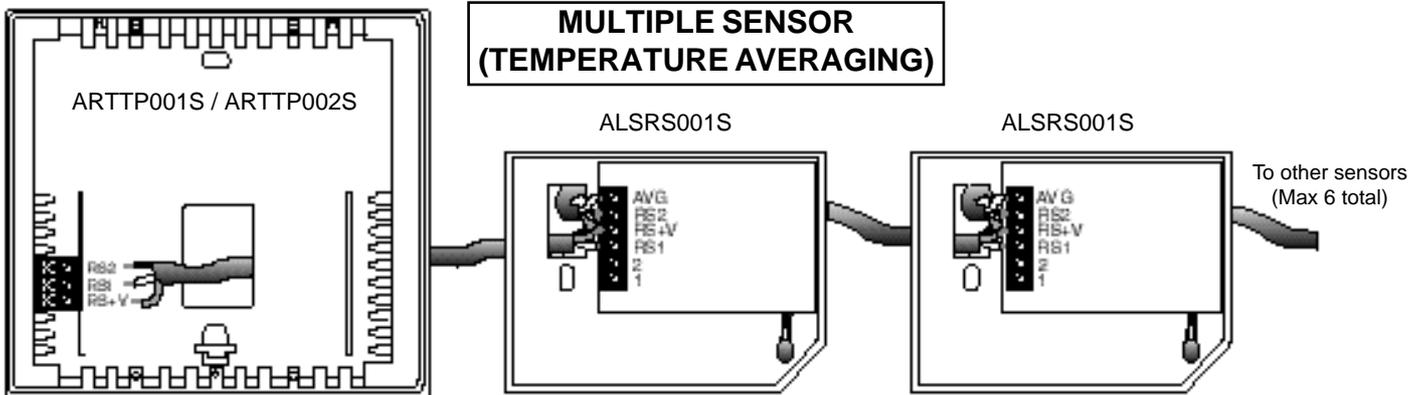

FIGURE 2
- 3 - Connect wires to each additional sensor in the following manner. An outdoor sensor can also be connected in an location in the chain. (Refer to Figure 2 also.)